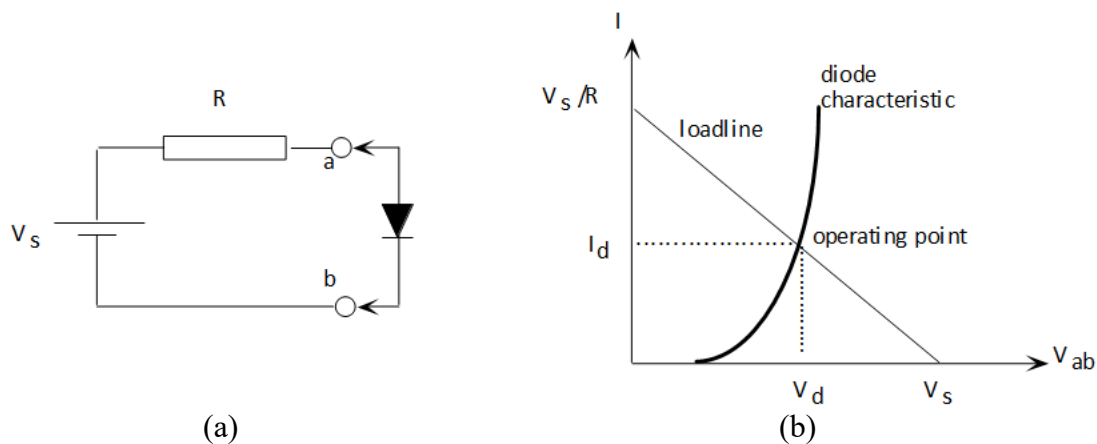

Figure 4: A diode circuit (a) and the load line that can be constructed to determine the operating point.
- (a) In the circuit of Fig. 4, set the power supply to 1.5 V (simulating a battery) and remove the decade resistance box but keep the 1k Ω resistor in place.